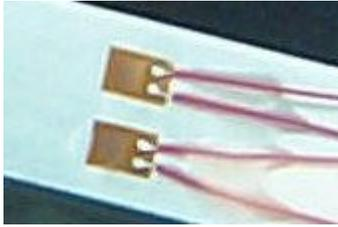

Figure 6 -
15. Briefly touch the gun tip against the wire. Solder will immediately flow onto the wire and *solder pads*, forming a tiny solder mound, as shown in Figure 6